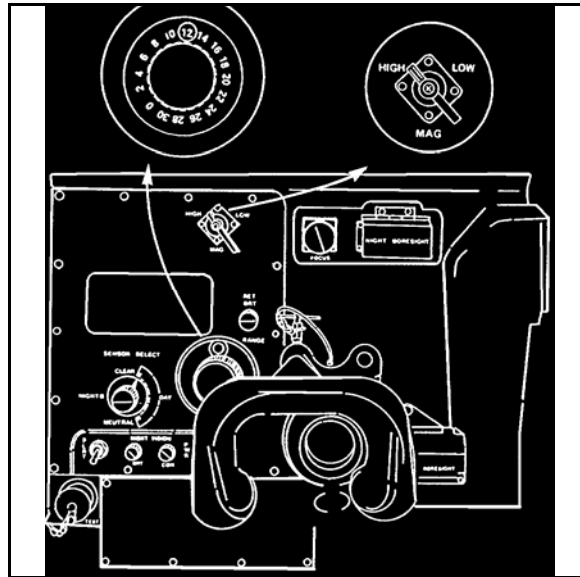

Figure 1. RANGE control knob and MAG switch.
- b. Set the integrated sight unit controls (Figure 1, page 3-142).
- (1) Turn the RANGE control knob to 12 (1,200 meters).
- (2) Move the MAG switch to HIGH (12X) (until it clicks).